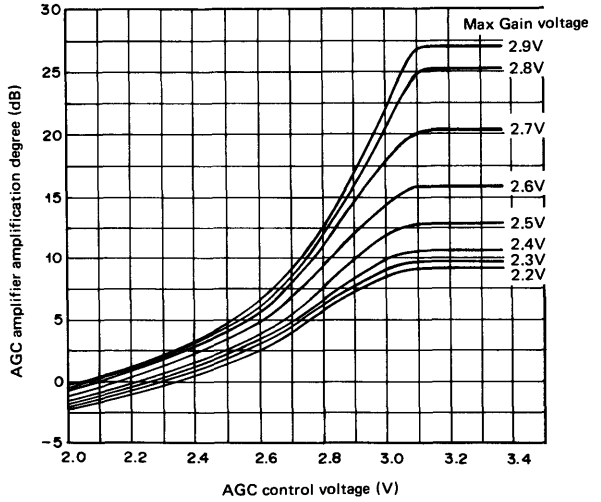

Fig. 12
- [11] AGC output voltage obtained by parameterizing AGC control voltage and Max gain voltage (Fig. 12)